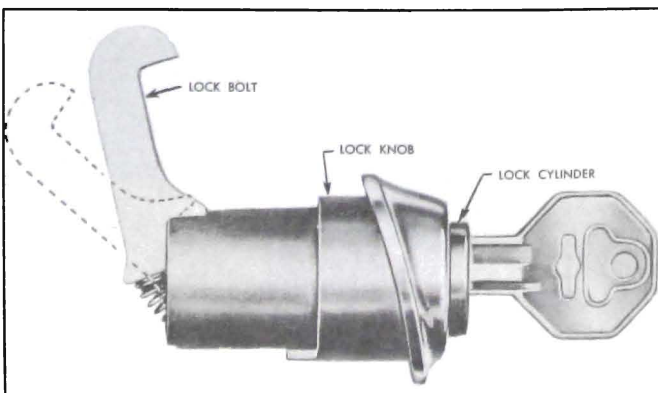

Figure 13-186—Instrument Panel Compartment Door Lock Cylinder Removal
3. Hold lock bolt in rear position, turn key clockwise 90° from unlocked position, and remove cylinder with key. See figure 13-186.